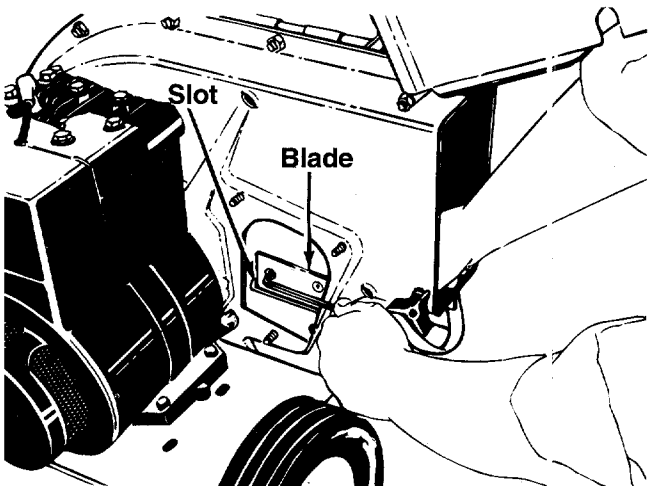

FIGURE 19.
- Rotate the impeller assembly by hand until you locate one of the chipper blades in the chipper chute opening. Remove the blade, using a 3/16" allen wrench on the outside of the blade and 1/2" wrench on the impeller assembly (inside the housing). See figure 19.